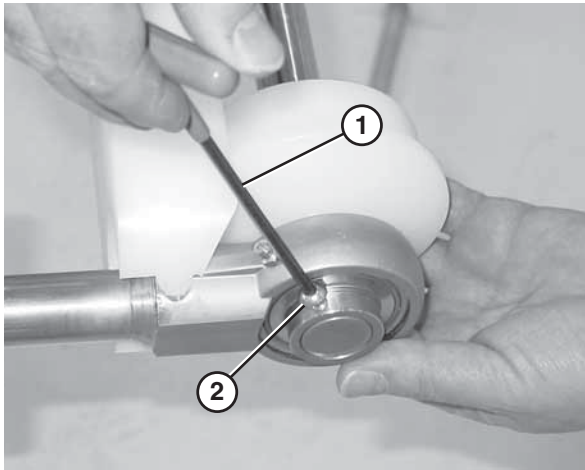

Figure 80
4. Use a hex wrench (**Figure 80, item 1**) to loosen the bearing shaft assembly fasteners (**Figure 80, item 2**).